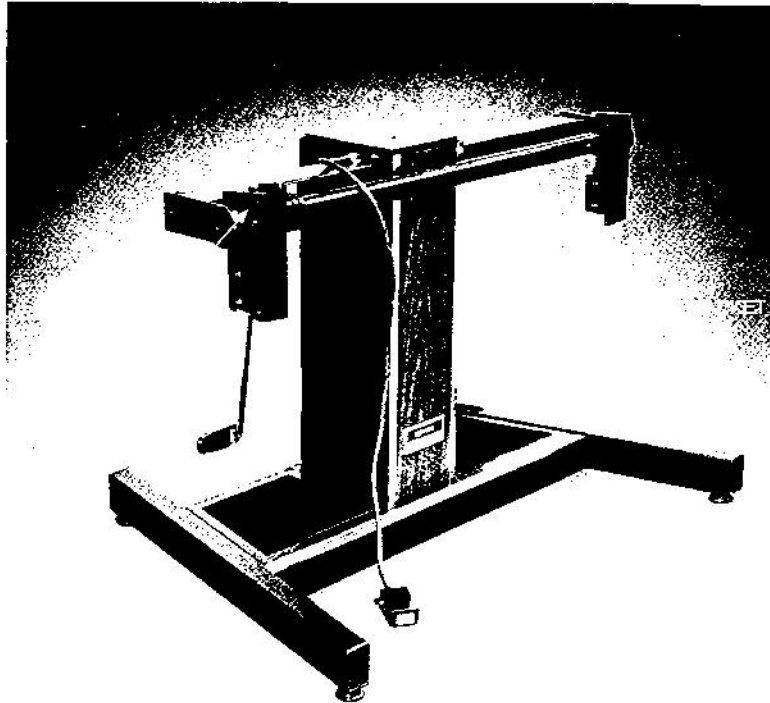

Figure 2-3: Mayline base
11. Drape the switch box electric cord over the pedestal pivot tube. See Figure 2-3. This must be done before the tablet is mounted.